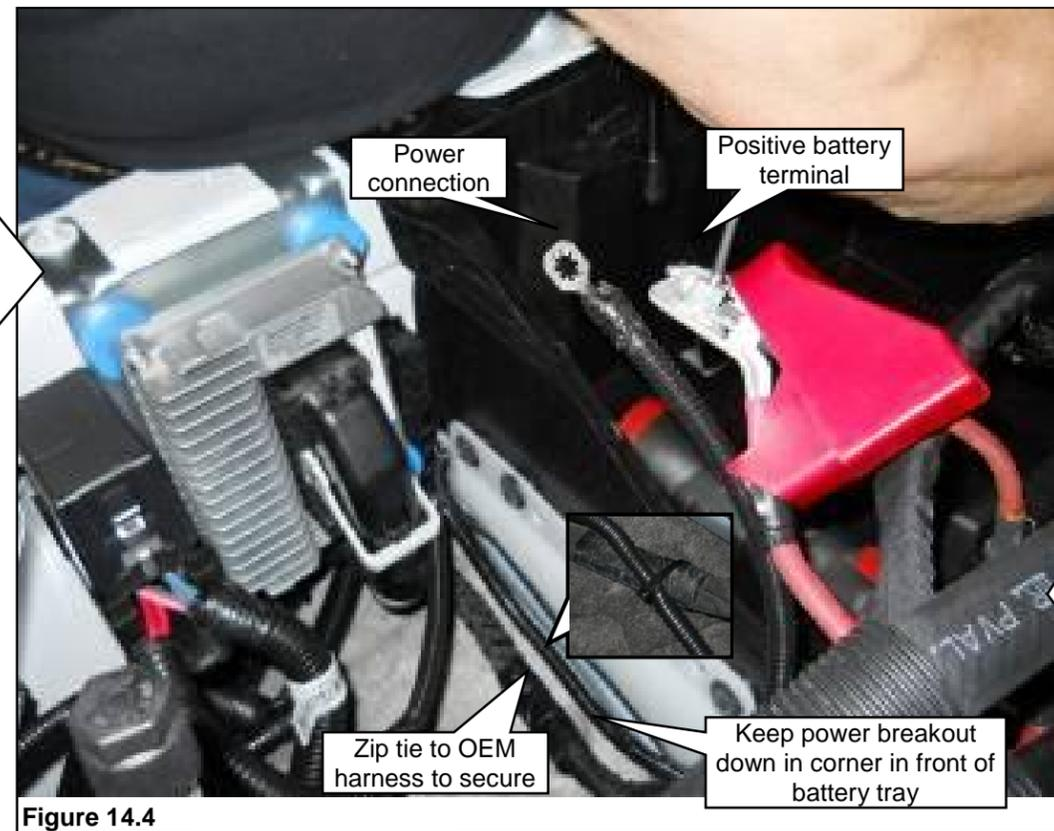

Figure 14.4
7. Leave the red battery power harness (breakout from fuse box harness) with electrical eyelet on the front side of the battery tray at the bottom. Connect the power lead to the positive terminal of the battery. Tighten the nut to secure. **Figures 14.4 and 14.5.**